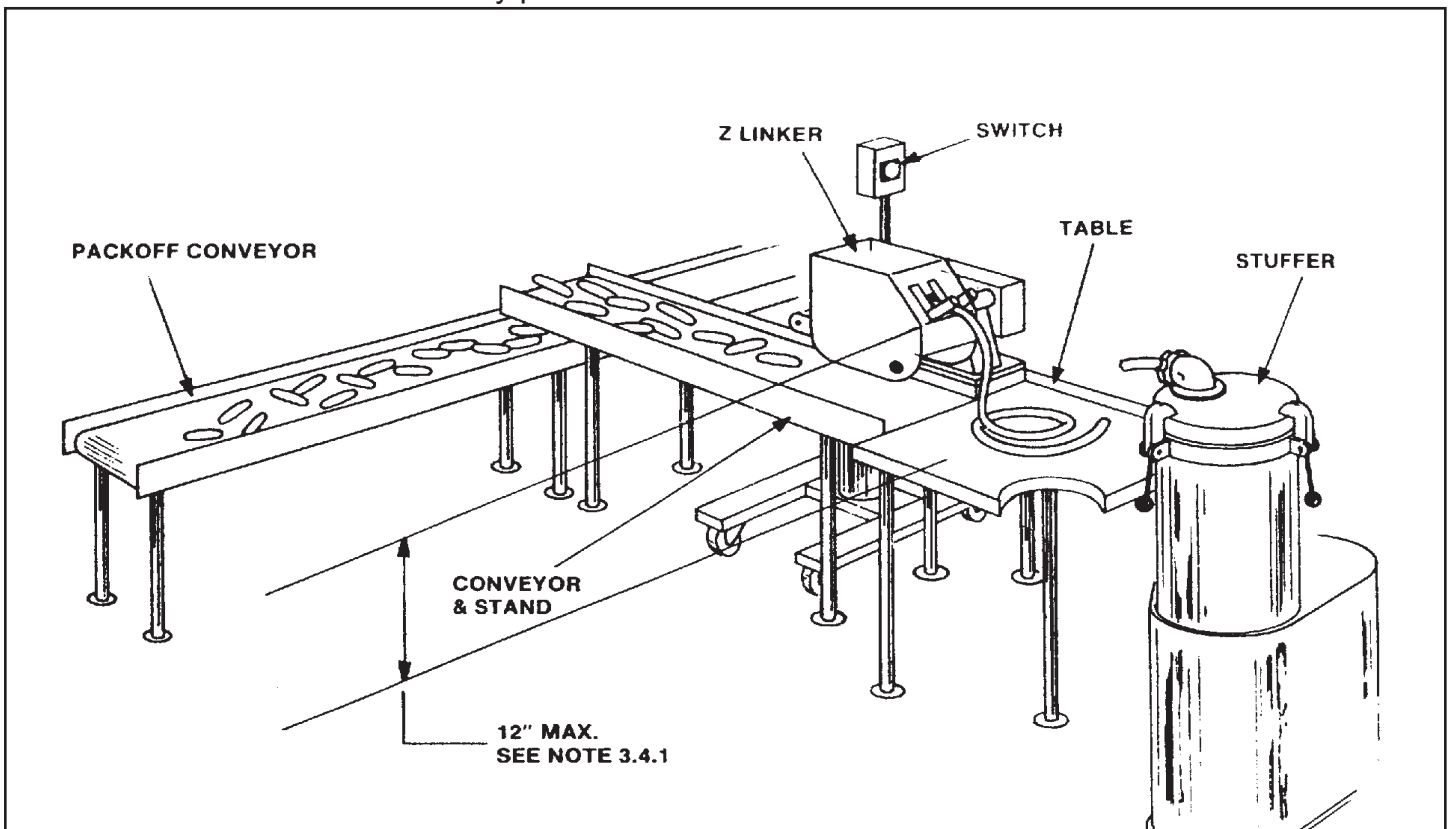
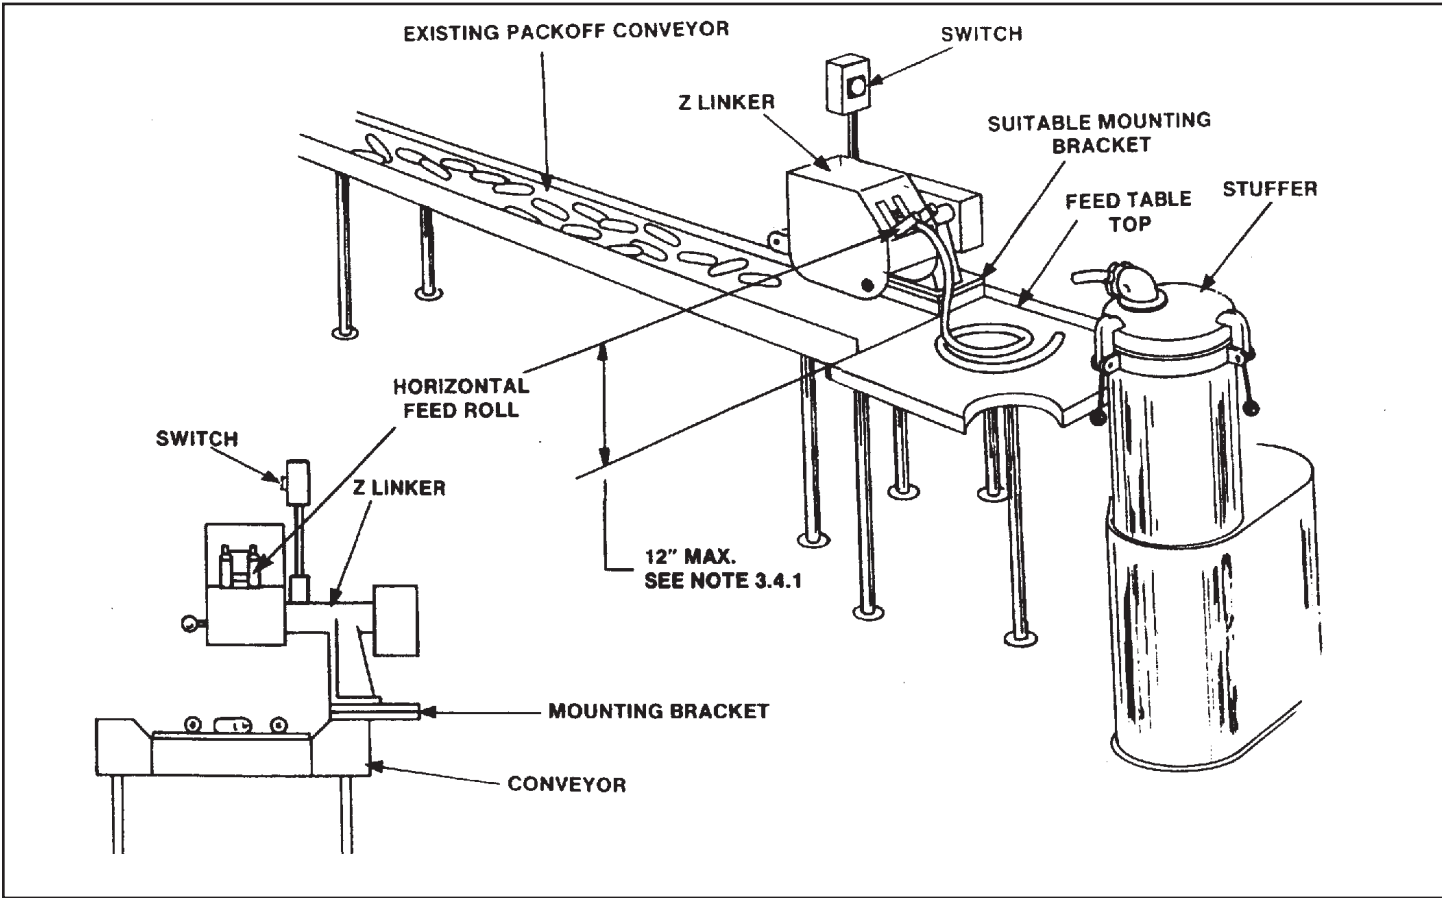

Figure 3-1 Z Linker with packoff conveyor.
Figure 3-2 Z Linker with single conveyor installation.
- Distance from horizontal feed table to feed roll not to exceed 12 inches. See Figure 3-2.
Installations may include conveyors shown in Figures 3-1 and 3-2. Be sure the machine is firmly mounted with no interference in any position.
4. Refer to Figure 3-1 and 3-2 for orientation and guidance.
6. Feed one end of stuffed sausage casing into the Guide Roll Bracket Sub-Assembly. The machine is “self feeding” if coiled sausage casing is positioned as illustrated in Figures 3-1 and 3-2.
<p>D. Miss-cut (double link). Machine does not cut every link. Links are continuous to about 8 inches in length or double the required 4" size. Linker Torsion Springs do not compress.</p>	<ul style="list-style-type: none"> a. Examine Linker Torsion Springs, Isolate faulty spring. b. Remove any obstructions that would cause the Torsion Spring to keep blades in an open position. c. Stop Machine. Remove and replace any faulty Torsion Spring. Refer to Section V for guidance.  <p>Figure 6-2 Miss-cut or 8" link.</p>  <p>Figure 6-3 Link shoulder break.</p> <ul style="list-style-type: none"> a. Check for obstruction in Linking Head Sub-Assembly cutter insert (See Figure 6-1). b. Check Z-Bar position in relation to insert cutting edge. c. Check vertical distance of feed roller from feed table. It should not exceed 12". See Figure 3-1 and Figure 3-2. d. Check for over stuffing. e. Check for incorrect wet-out conditions. f. Check blade sets (Part # 05x02) for misalignment, looseness or deformity replace entire assembly.